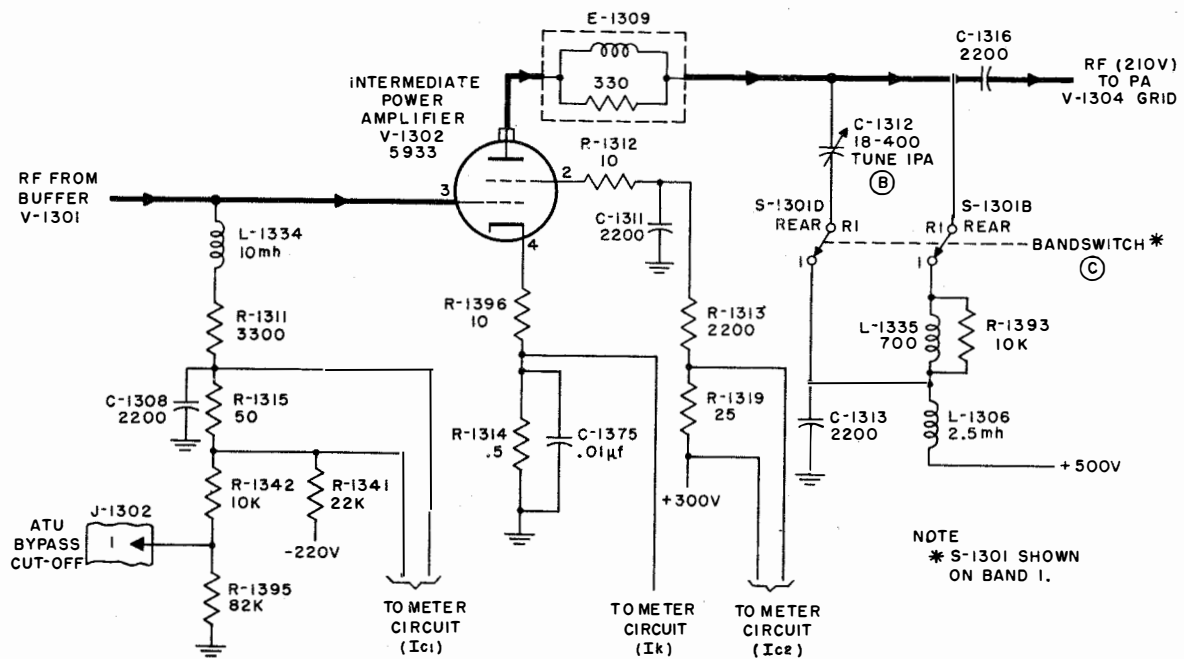

Figure 2-98. IPA V-1302, Simplified Schematic
c. IPA V-1302.—The intermediate power amplifier (IPA) V-1302 (figure 2-98) amplifies the r-f signal from the buffer V-1301 to a level of approximately 210 volts rms. The r-f signal is further tuned in the IPA plate tank circuit.
(1) IPA INPUT.—During normal operation, the control grid of the IPA is power biased to approximately -65 volts by means of the voltage divider R-1341 and R-1342 connected between the -220-volt supply and a ground that is supplied from the antenna tuning unit. A grid leak circuit is comprised of r-f choke L-1344, R-1311, together with grid current meter shunting resistor R-1315. Thus, a combination of grid-leak bias and fixed bias is used. Capacitor C-1308 bypasses the meter and power bias circuit. The cathode is grounded through parasitic suppressor R-1396 and cathode current meter-shunting resistor R-1314, which is bypassed by C-1375. The screen is connected to the +300-volt supply through parasitic suppressor R-1312, filter resistor R-1313, and screen current meter-shunting resistor R-1319. E-1309,
(2) IPA TANK CIRCUIT.—The IPA tank circuit (figures 2-98 and 2-99, shown for band 1) is similar to the tank circuit of buffer V-1301. Both are tuned by the TUNE IPA control (Ⓟ), which is ganged to the IPA tuning capacitor, C-1312, as well as to the buffer tuning capacitor, C-1305. Choke L-1306 and capacitor C-1313 comprise a B+ decoupling network, for the +500-volt plate supply. BANDSWITCH control (Ⓢ) is ganged to IPA bandswitches S-1301D rear, S-1301B front, and S-1301B rear, as well as to the buffer bandswitches. The desired tuning inductor and associated damping resistor are selected by S-1301B rear. All other tuning inductors and damping resistors are shorted out by S-1301B front. On bands 5 and 6, bandswitch S-1301D rear selects a band-spread capacitor, C-1371 and C-1372, respectively, in series with tuning capacitor C-1312. The r-f output of the IPA, approximately 210 volts rms, is coupled by capacitor C-1316 to the control grid of the power amplifier (PA) V-1304.